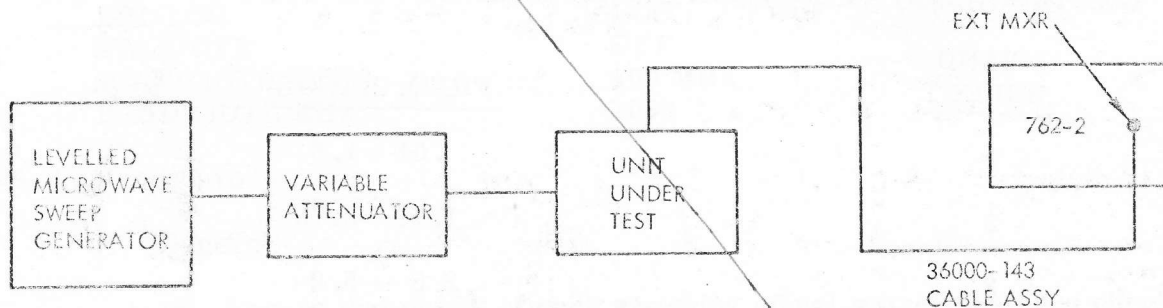

Figure 6-5. Waveguide Mixers Check
- (1) Connect equipment as shown in Figure 6-5. Use a 36000-143 Cable Assy, Ext. Mixer, to connect the mixer to the analyzer EXT MXR. Be certain the cable end marked MIXER is connected to the mixer.
- (2) Set the sweep selector control in the sweep generator to CW. Set Start/CW control to the center of the microwave band to be measured. (Model 7120A: 15 GHz) (Model 7121A: 22 GHz) and (Model 7122A: 32GHz). Use the sweeper dial to determine frequency. Use appropriate procedure to ensure that sweeper is leveled.